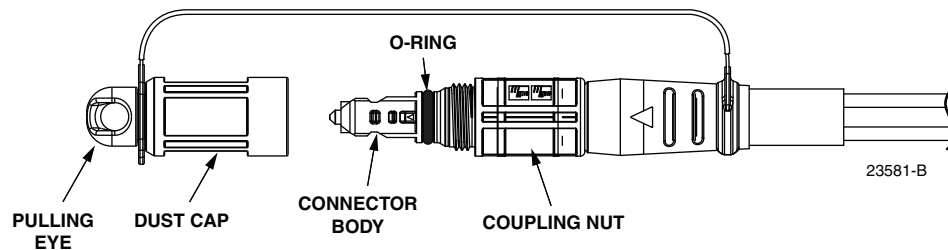

Figure 4. Connector Components
The basic components of the drop cable connector are shown in Figure 4. The dust cap threads onto the connector coupling nut. A pair of O-rings on the connector body provide a tight seal when the dust cap is in place. A pulling eye is provided in the end of the dust cap for pulling the drop cable through conduit.
1. Unscrew the dust cap from the drop cable connector (see Figure 4 on Page 3).
8. Inspect the optical port dust cap O-ring (see Figure 4 on Page 3) for dryness and apply O-ring lubricant to the O-ring if dry (MST-ACC-LUBE1). For the procedure, refer to Section 5 on page 9.
6. Thread the drop cable dust cap onto the drop cable connector coupling nut and tighten until finger tight (see Figure 4).